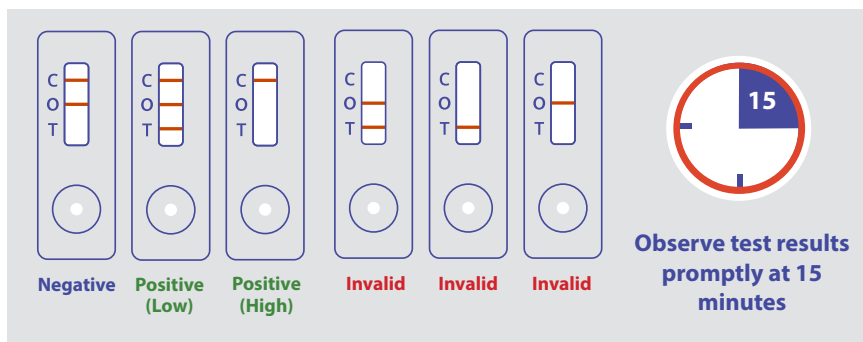

Figure 3. Interpreting Test Outcomes
**9.1.** A negative result is indicated by the development of a strong control line (C) and overload (O) line. An example of a negative result is depicted in **Figure 3** labeled “**Negative**”.
**9.2.** Positive test results at lower analyte concentrations will result in the appearance of the test line (T) in addition to the overload line (O) and the control line (C). At higher analyte concentrations, both the test line (T) and the overload line (O) will disappear, leaving only the appearance of the control line (C). Thus at high analyte concentrations, the disappearance of the overload line (O) indicates that the sample is positive for the analyte regardless of the appearance of the test line (T). Examples of positive results are depicted in **Figure 3** labeled “**Positive**”.